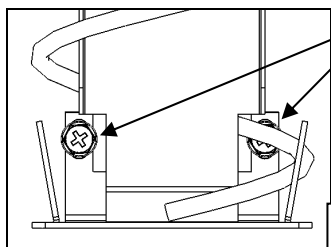

Figure 7
7. Use provided screws (**4050202.001** (2)) to fasten the **K-Cup adapter** to the tray (See Fig. 7)
7. Attach bracket to hub, with sides of hub in rectangles of bracket (See Fig. 7)
8. Use provided fastener **4050202.001** (2) in holes of bracket, through hub, to securely fasten bracket to hub (See Fig. 7)